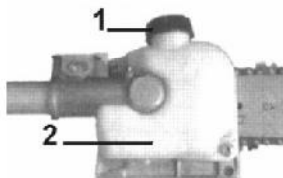

Fig.PP8
1. Place the pole pruner on a clean, flat surface with the oil filler cap facing up. See Fig.PP8.